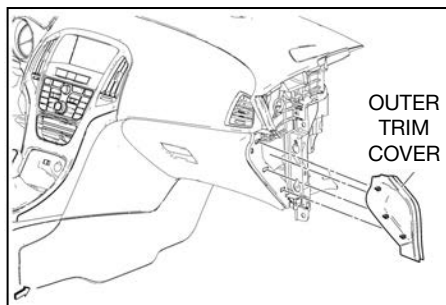

Fig. 13
2. Remove passenger side instrument panel outer trim cover (see Fig. 13).